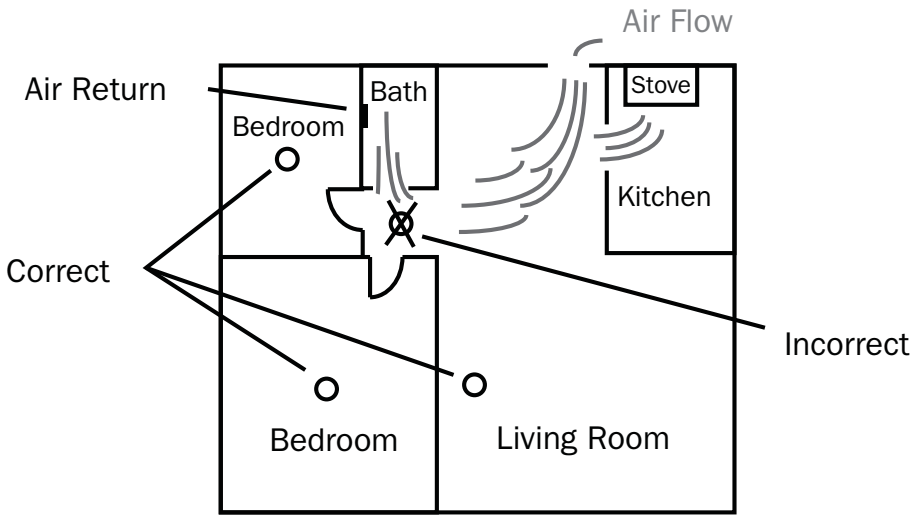

Figure 3: Recommended smoke detector locations to avoid air streams with combustion particles.
- In air streams passing by kitchens. Figure 3 shows how a detector can be exposed to combustion particles in normal air movement paths, and how to correct this situation.